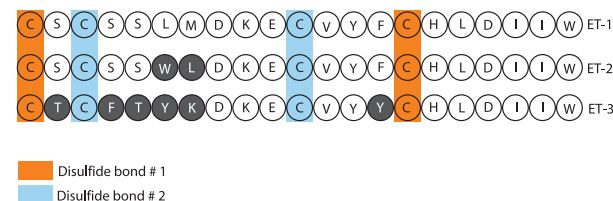

Figure 1. Endothelin primary structure
The endothelin (ET) peptide family consists of three isoforms, ET-1 (corresponding to the initially isolated and most predominant isoform), ET-2, and ET-3, each the product of separate genes.^{1,2} Each isopeptide is 21 amino acids in length, with two intra-chain disulfide bonds. ET-2 and ET-3 exhibit 2 and 6 different amino acids, respectively, compared to ET-1 (see Figure 1, on page 7). ET-1 was originally isolated from the supernatant of cultured porcine aortic endothelial cells and is one of the most potent vasoconstrictors currently known.³ Human ET-1 is derived from a 212 amino acid precursor protein (preproendothelin) which is cleaved by a neutral endopeptidase to form a 38 amino acid pro-ET-1 or “big endothelin”.¹ Big endothelin is essentially devoid of biological activity. Endothelin-converting-enzyme-1 (ECE-1) converts big endothelin to the mature endothelin peptide. In addition to being a potent vasoconstrictor, ET-1 displays other pharmacological actions including bronchoconstriction and regulation of kidney function.^{1,3,4} All three endothelins act through specific G protein-coupled receptors, ET_A and ET_B, to activate phospholipases resulting in elevation of inositol phosphates, diacylglycerol, eicosanoids, and calcium.⁵⁻⁷ ET-2 displays similar pharmacology to ET-1, whereas ET-3 is a weaker vasoconstrictor but more potent inhibitor of platelet aggregation.^{1,6}